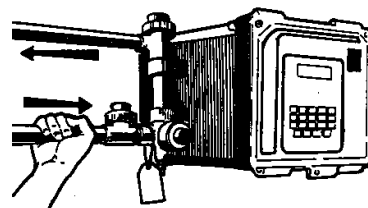

Figure 2
6. Direction of flow should be from the bottom to the top of the flow assembly so flow monitoring switch will operate properly (see *Figure 2*).